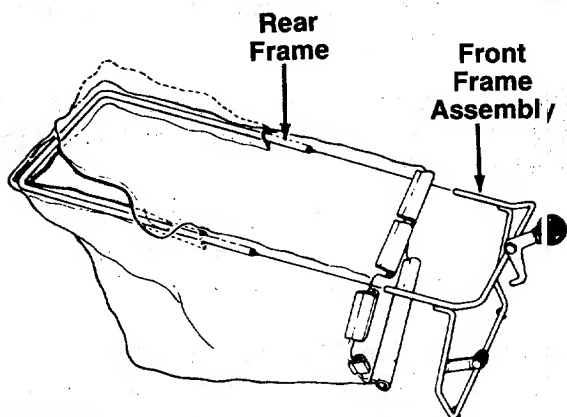

FIGURE 8.
3. Join the rear frame and front frame assembly as shown in figure 8.